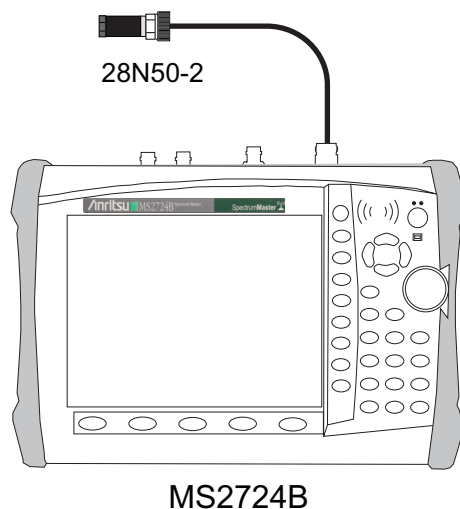

Figure 2-7. Displayed Average Noise Level – Test Setup
1. Connect the 50 ohm termination (Figure 2-7) to the Spectrum Analyzer RF In connector.
7. Press the **Shift** key and then press the **Sweep** (3) key, then press Detection and then the Peak soft key.
- b. Press the **Shift** key and then press the **Sweep** (3) key, then press the Detection and the Peak soft keys.